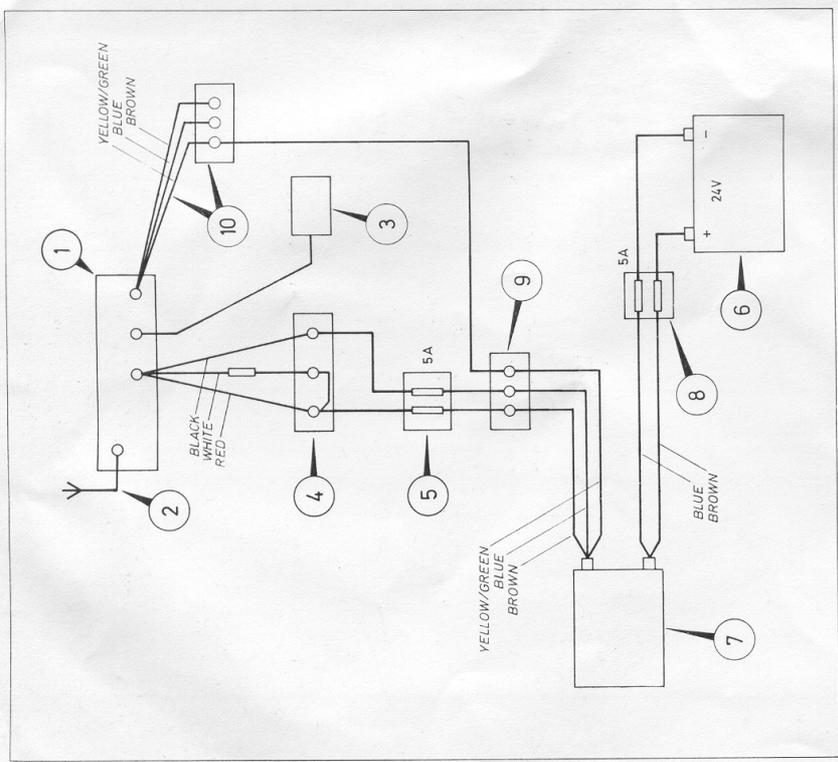

Fig. 2.1 Typical Installation
3. Cables (not supplied) used between, battery and Fuseholder (8), radiotelephone connector block and Terminal Block (9), switching lead connections of Terminal Blocks (9) and (10), should be 2.5 mm (70/0070).
8. Refer to the Typical Installation Diagram, Figure 2.1, throughout this procedure.